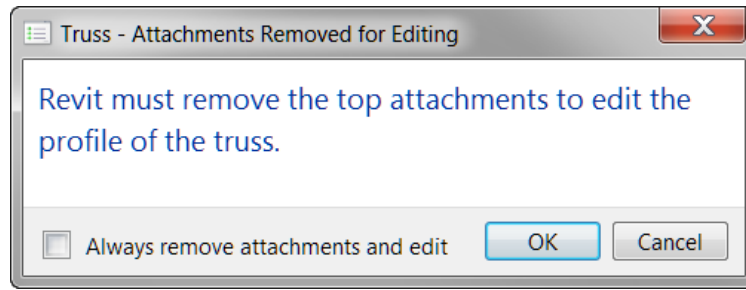

Figure 228 - Example of a task dialog using the DNSMA checkbox as an "Always..." checkbox for one choice
- See Figure 228 for an example of a task dialog with OK and Cancel buttons